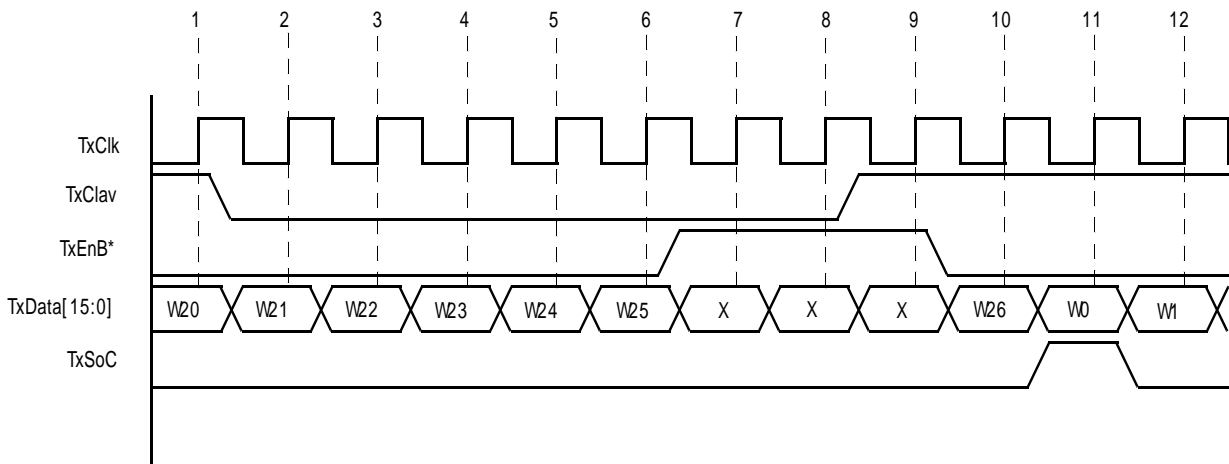

Figure 23. Timing Diagram of ATM Layer processor Transmitting Data to the UNI over the Utopia Data Bus (Single-PHY Mode/ Octet-Level Handshaking).
Notes regarding Figure 23:
2. The Transmit Utopia Interface Block is configured to handle 54 bytes/cell. Hence, Figure 23 illustrates the ATM Layer processor writing 27 words (W0 through W26) for each ATM cell.